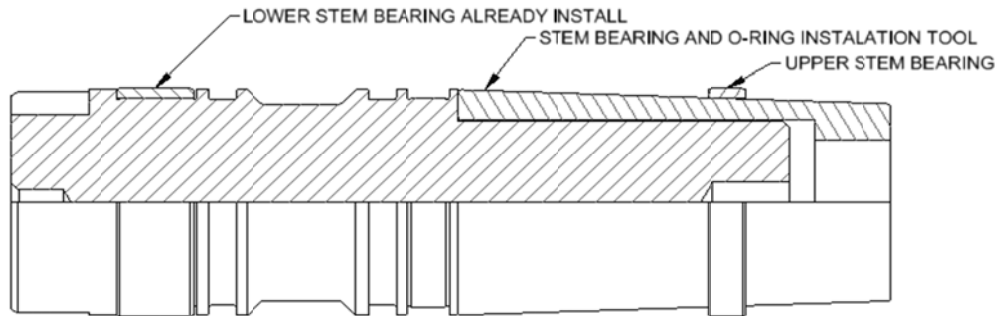

Figure 11 – Stem Bearing Installation
- Install the radial bearings on the stem using a bearing tool shown in Fig. 11. The lower bearing is wider than the upper bearing. Both bearings shall fit into the designated grooves.